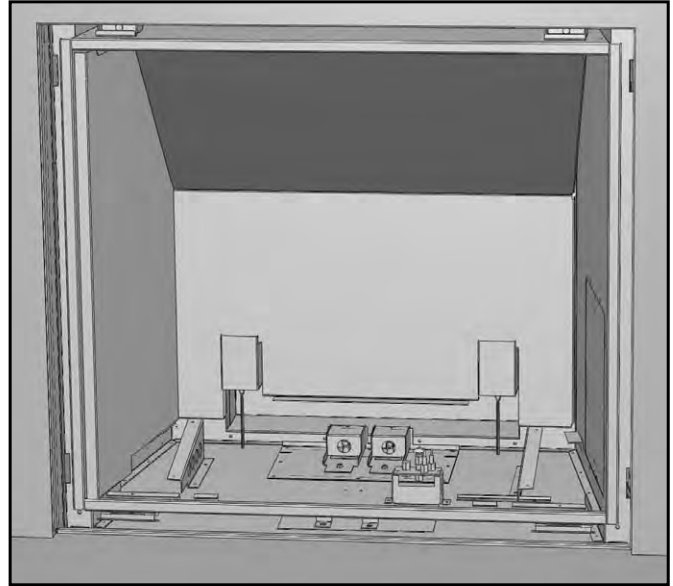

Figure 97: Top Porcelain Panel in Place.
5. Install the Top Panel by placing it on top of the Rear Panel and behind the Left Panel (see Figure 97). Hold it with one hand or have someone else hold it for you while you place the last panel. **WARNING:** If this panel falls from this location it will possibly break or the paint work will become chipped.